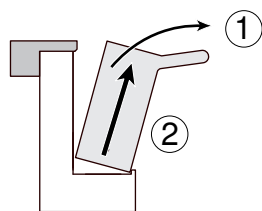

Figure 17 Sensor removal steps
- Remove the Sensor forwards (1) from the Sensor Array and lift it up (2) (see figure 17).